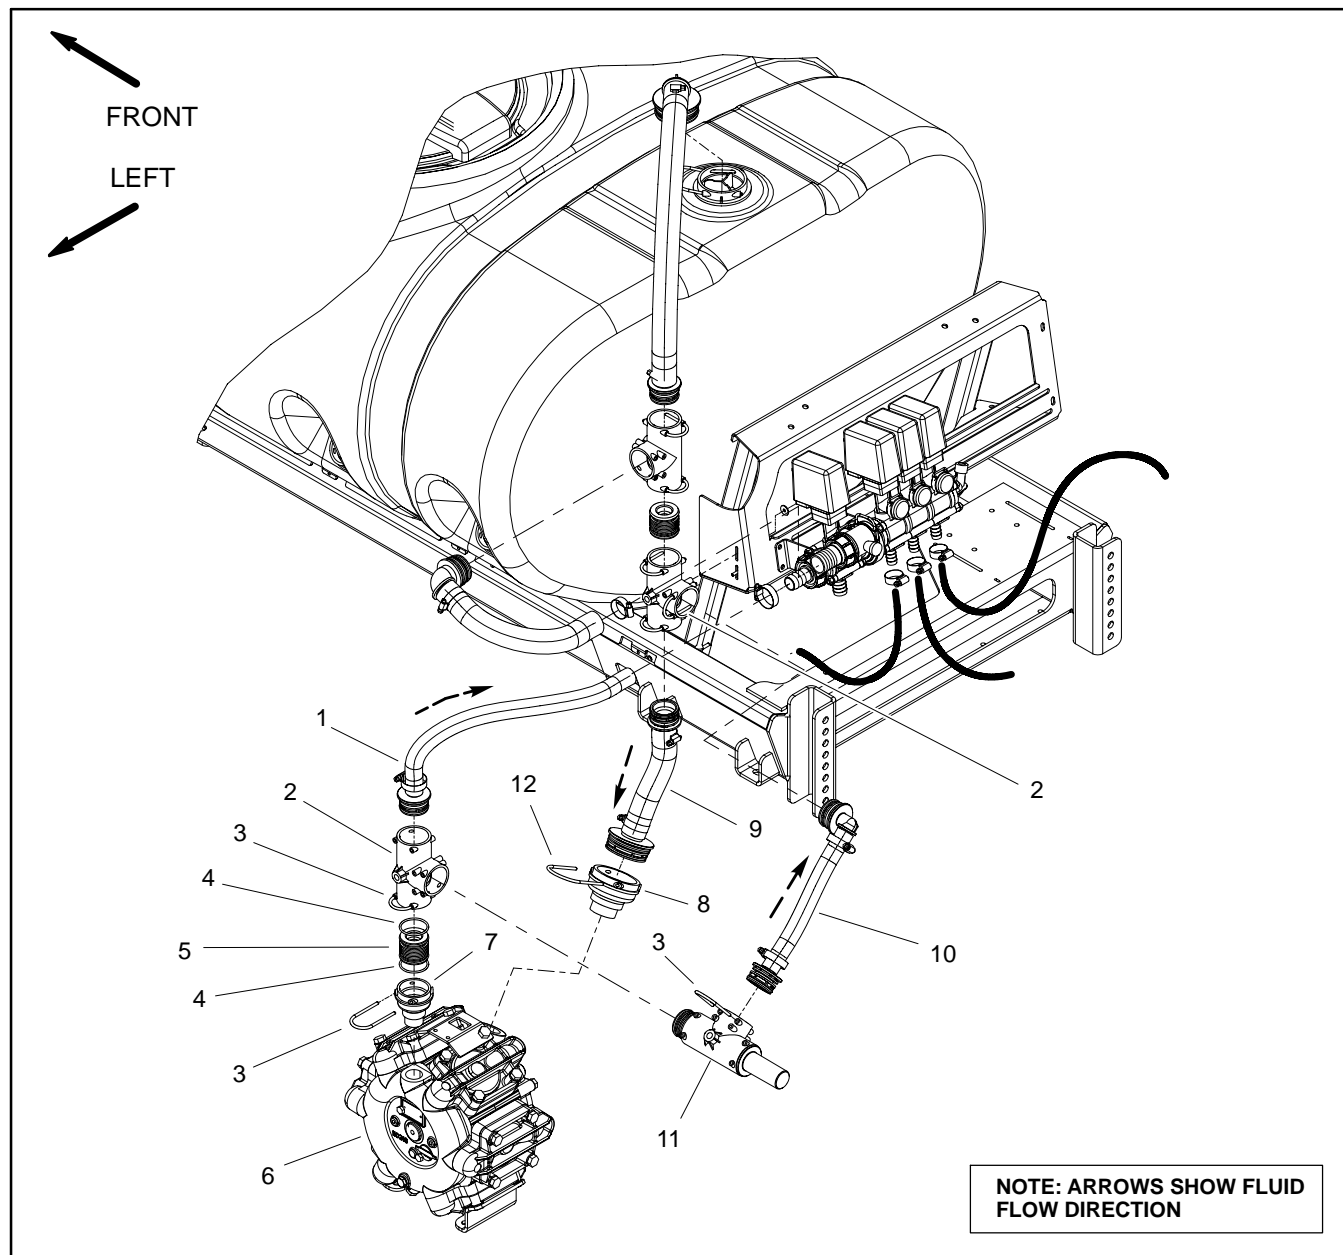

Figure 11
Removal (Fig. 11)
4. Remove pressure relief valve from spray tank using Figures 11, 12 and 13 as guides. Discard all removed O-rings and gaskets.
Installation (Fig. 11)
1. Install pressure relief valve using Figures 11, 12 and 13 as guides. Replace all removed O-rings and gaskets.